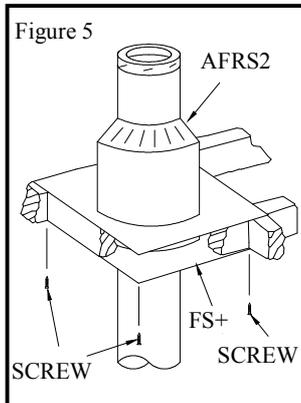

Figure 5
- 4 From below, install a firestop (FS+) in each floor through which the chimney passes. At the attic level, install an attic radiation shield (AFRS2) from above (See Fig.5).